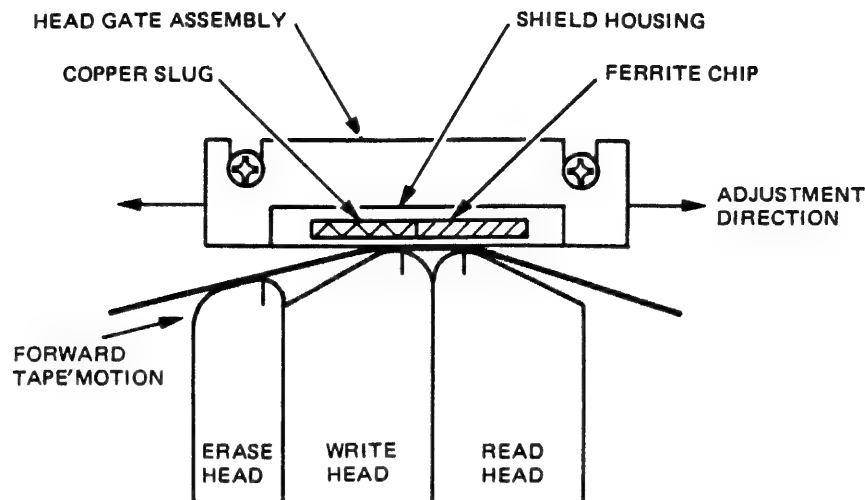

Figure 4-25. Head Gate Adjustment for PE-Only System
- Loosen two head-gate screws and reposition gate by moving it in plane shown in Figure 4-25 until minimum amount of modulation is observed on both channels. Edge of ferrite should be approximately opposite write gap. Verify that shield housing is resting on head block at both front and back.